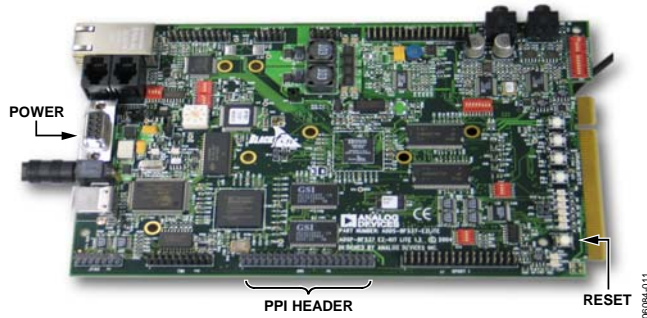

Figure 11. Powering Up the Blackfin EZ-KIT Lite Board
2. Power up the Blackfin board by inserting the power cable into the receiver as shown in Figure 11.
5. Reset the Blackfin board (use the **RESET** push button as indicated in Figure 11).
8. Connect the female connector (J4, marked "Blackfin PPI"), which is on the under side of the EVAL-AD7764/AD7765EBZ evaluation board to the PPI header of the Blackfin board. The PPI port is highlighted in Figure 11.